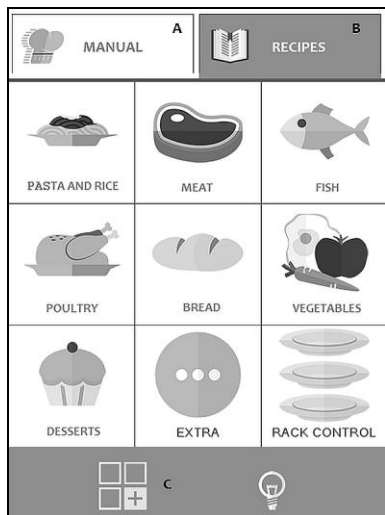

Fig. 9
2. Select from amongst 'Manual' **A** (Fig. 9) or 'Recipes' **B** (Fig. 9).
By pressing the **C** control field (Fig. 9) you access the 'Functions' menu (e.g., creating, importing and exporting thermal processing programs, Rack Control function, EasyService, etc.) and the appliance system settings.